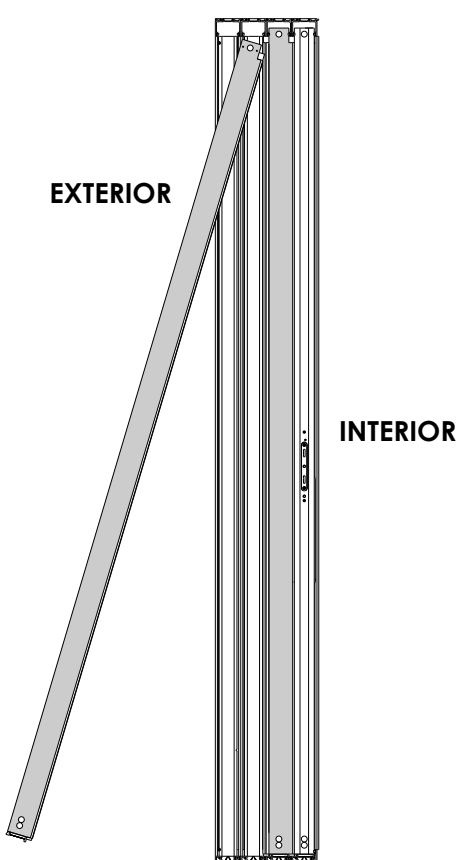

FIG 48
- From the exterior of the building, with the Glazing Stops on the panel to the exterior and with a portion of the panel overlapping to Lock Panel, lean the top of the panel into the Intermediate Panel Track at the head of the frame and then lower it onto the corresponding track in the sill. **[FIG 48]**